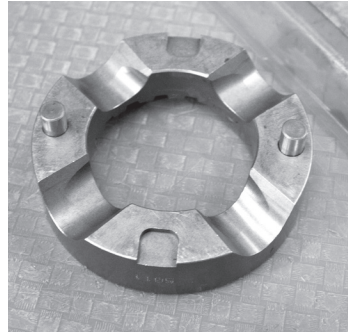

Figure 2-D
- Carefully install the alignment pins and springs into the holes in the back of the drivers. Make sure the springs do not fall out or become wedged sideways in the holes during installation. *Figure 2-D*